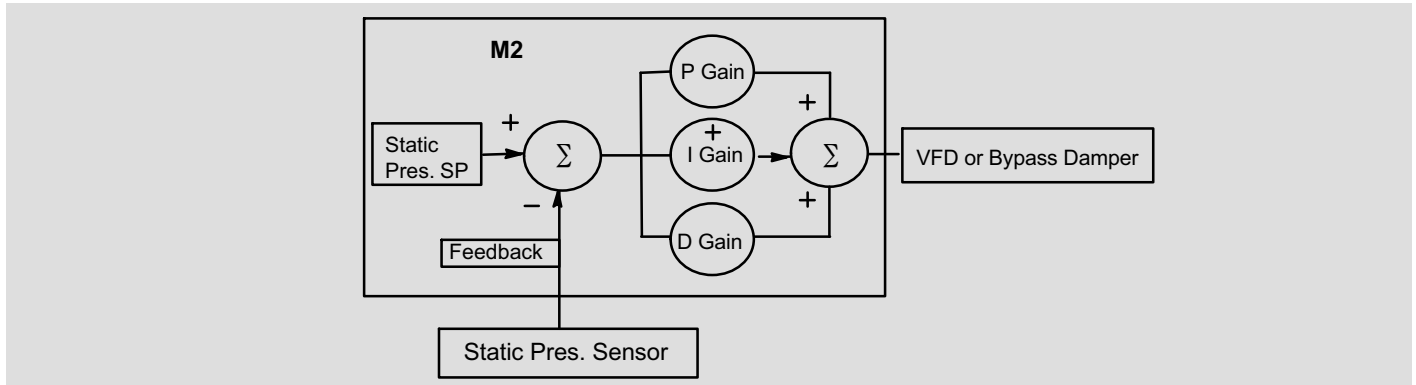

Figure 19. PID Operation Diagram for VAV/CAVB Air Delivery and Exhaust Fan Control
The analog outputs on the GP1 boards can be set to closed loop PID or staged control. Most applications such as variable air delivery and variable speed exhaust fans will use the closed loop PID option. The closed loop PID method used by the M2 has four constants, manual reset (ManRS), proportional (P), integral (I) and derivative (D) as shown in figure 19. The PID control constants as well as the output minimum and maximum values, may be adjusted if necessary.